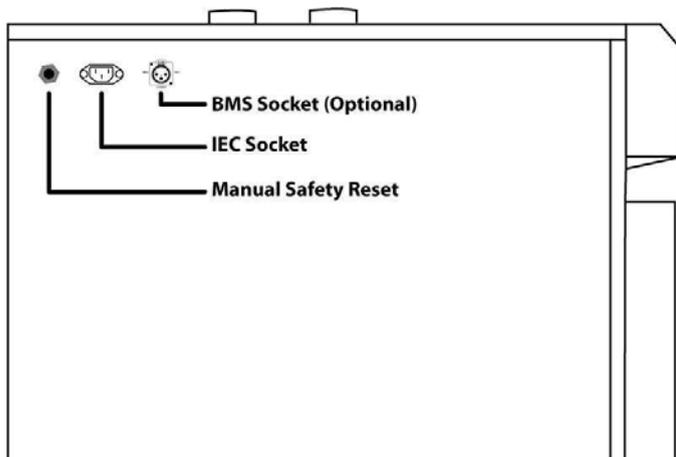

Fig 1.
- Locate the safety reset at the back of the cabinet. It is displayed as a red or black knob (Fig 1).